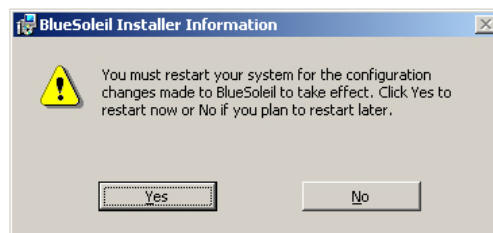

Figure 7-38: Reboot the Computer
Step 11: To complete the chipset driver installation, click **FINISH**. The user is then prompted to select to restart the computer now or later (**Figure 7-38**). For the settings to take effect, the computer must be restarted. Click **Yes** to restart the computer.